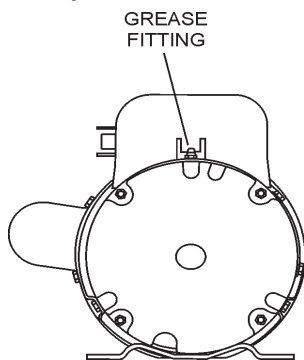

Figure 28. Grease Fittings Electric Motor
1. There are two grease (Figure 28) fittings at each end of the electric motor that will require lubrication. Lubricate these fittings about **every 16 months**.